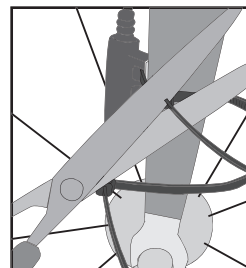

Figure 12- Trim excess nylon tie length
6. Tighten the nylon ties and trim the excess length (Figure 12).